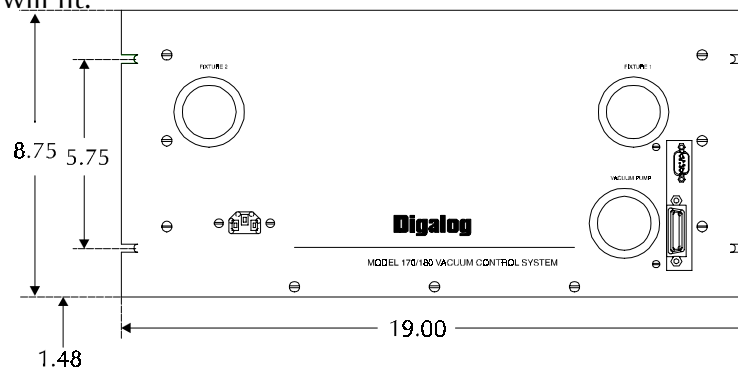

Figure 1
2. **INSTALL SPRING NUTS ON 19-INCH RACK.** See Figure 1 for the spacing of the spring nuts. Make sure that you have a minimum of an 8.75 inch opening in the rack so that the unit will fit.